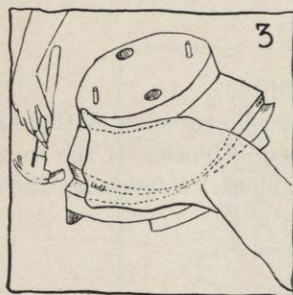

FIG. 3.
- Take hold of the larger edge of your flange. Stretch, allowing 1 inch for shrinkage, then tack this end in the groove below the edge of block, just 1 inch beyond where you want to put the seam (see Figure 3).